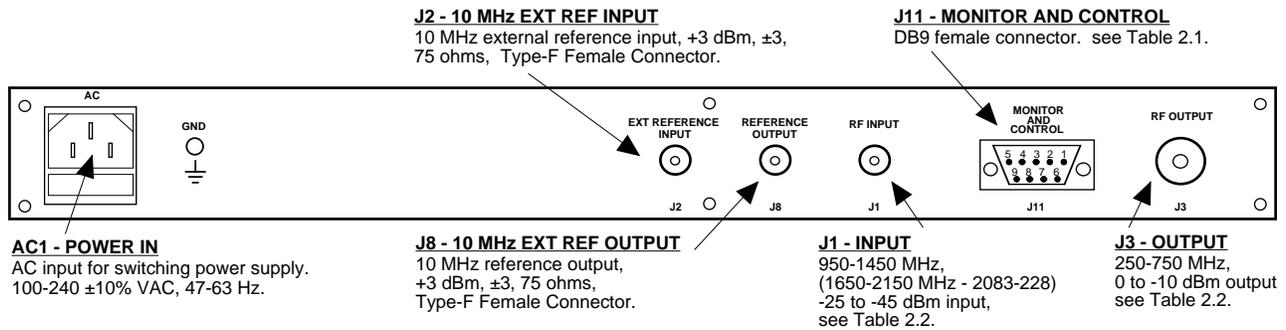

FIGURE 2.1 2083-158 Rear Panel I/O's
Figure 2.1 shows the input and output connectors on the rear panel.
1. Connect a -25 dBm to -45 dBm signal to RF IN, J2 (Figure 2.1)